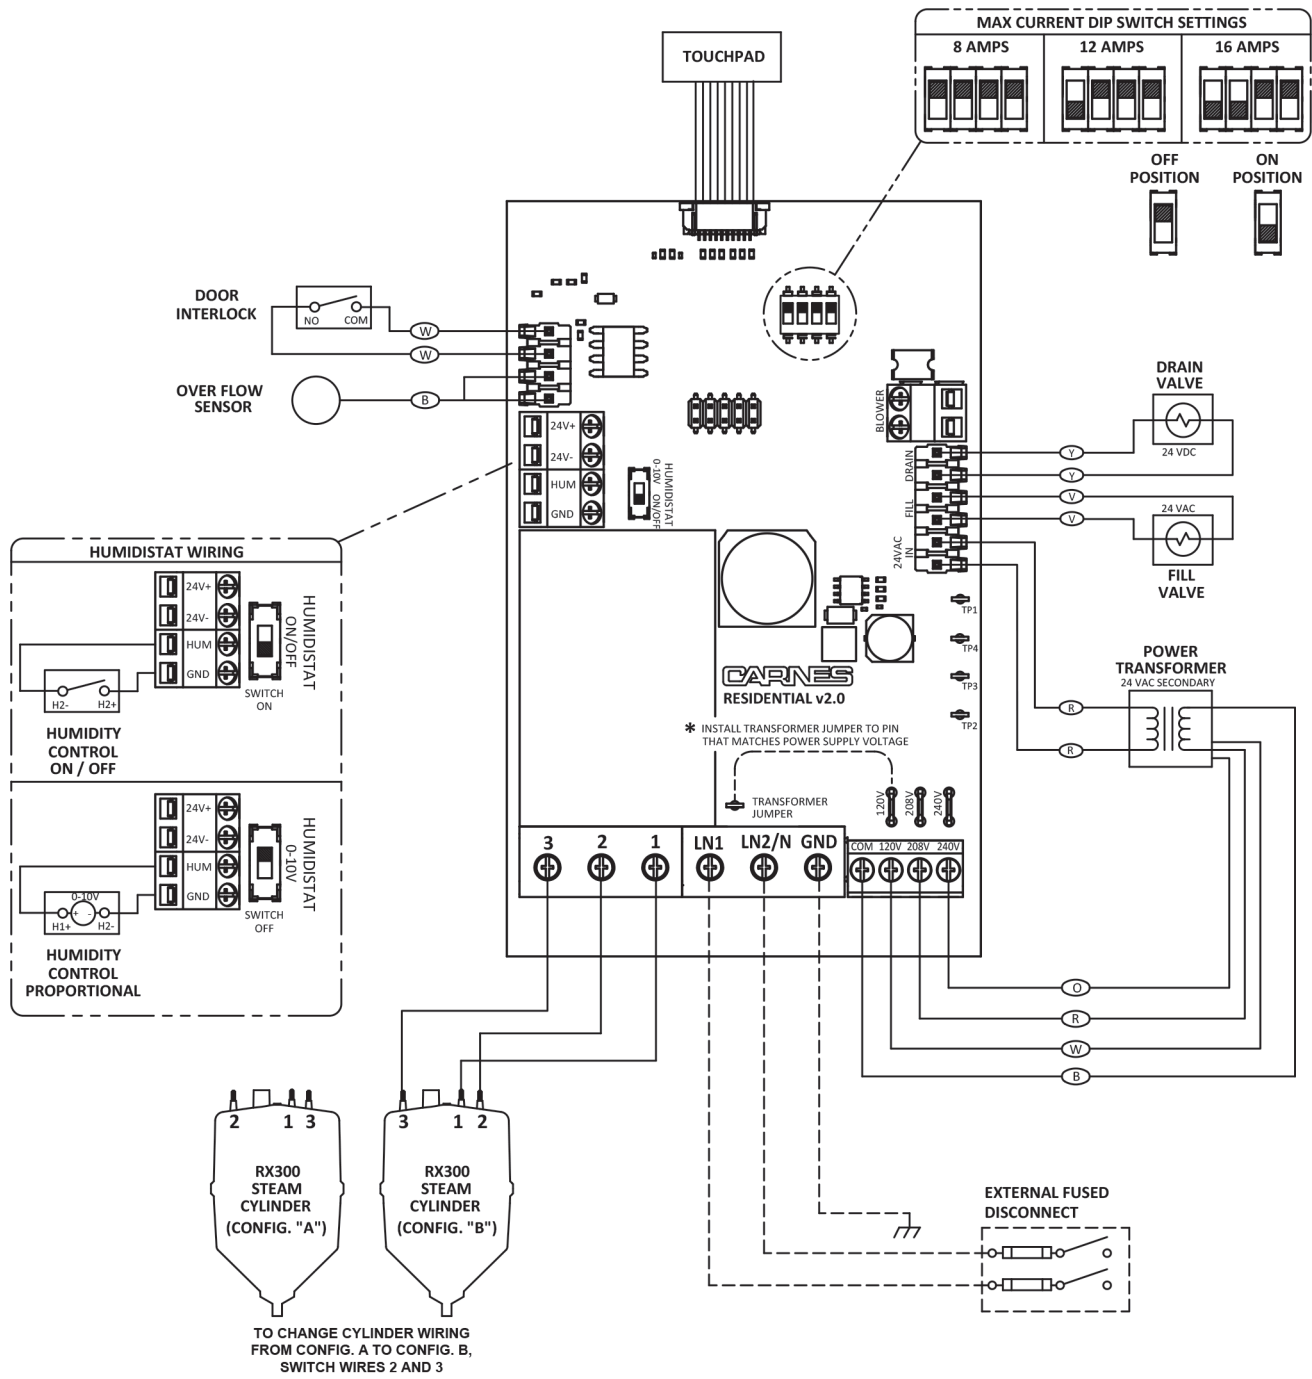

Figure 14: Humidifier Wiring Diagram
4. Bring electrical power wires through the opening provided in the top panel and connect to electric power terminals as shown in the humidifier wiring diagram *Figure 14* on the next page.
located on the internal humidifier circuit board, shown in *Figure 14*. When using the Carnes residential humidistat, it is important to make sure that both devices are set to the same control settings or the unit will not function properly.